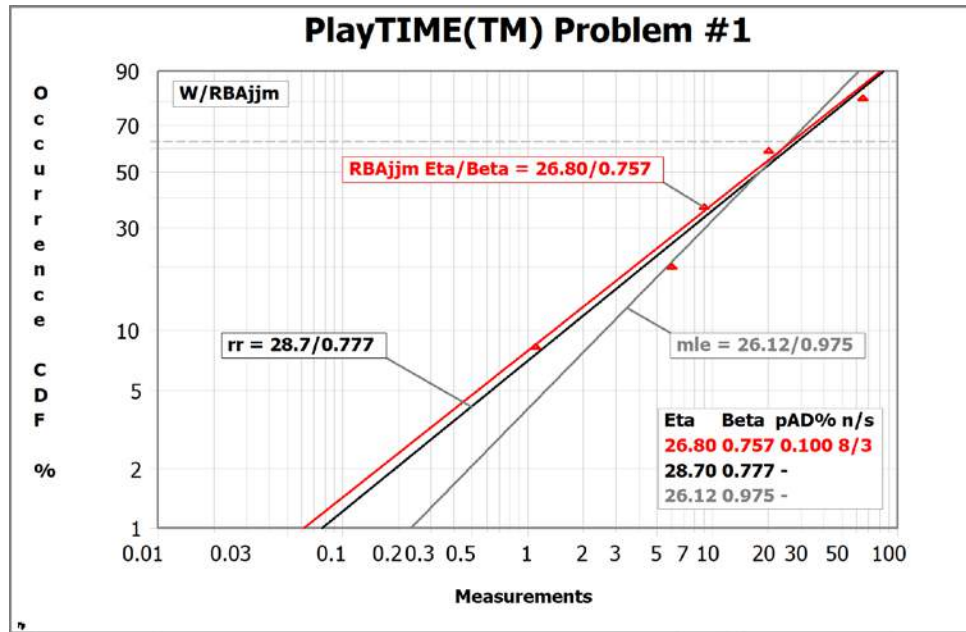

Figure 7: Comparing Rank Regression (rr), Maximum Likelihood Estimate (mle), & mle-RBA (RBAjmm)
- From the Main Screen, Home group, select Open/Import, and open the **PlayTIME-Problem-5.w** file. Select the small plot to enlarge, it should look similar to Figure 7, but with only one line plus the data points.
- Get "RBAjmm" (mmle) solution as follows: From the Main Screen, select Analysis group, Method/Input again, then select the modified maximum likelihood (mmle) icon (showing mle symbol + 2 arrowheads). "RBAjmm" should appear on the plot for solution method. If not, return to Method/Input, select "H...Type Of mle Modified...", select "1...Weibull...", then "RBA Mindeguia". This latest plot (Figure 7) shows RBAjmm fit (**Eta=26.80, Beta=0.757**) agreeing well with Marker Line # 1 ('rr').